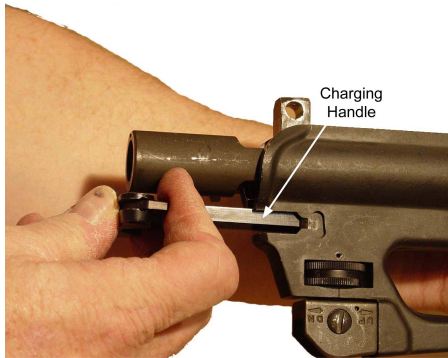

Figure 3-6. Charging Handle and Bolt Carrier Removal
- (1) Pull back charging handle and bolt carrier. Refer to Figure 3-6.